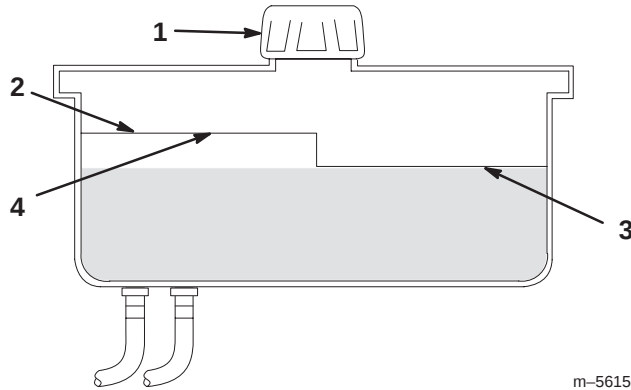

Figure 50
2. Clean area around filler neck of hydraulic tank (Fig. 50).
3. Remove cap from filler neck. Look inside to check if there is fluid in the reservoir. (Fig. 50).
Note: The fluid level should be to the top of the **hot** level of the baffle, when the fluid is warm (Fig. 50).